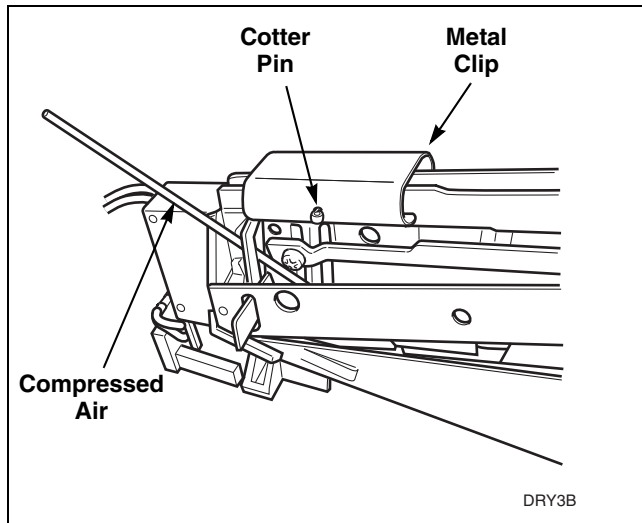

Figure 80
- If lint is preventing coins from rolling through coin drop, blow compressed air through coin entry and along the side of the coin drop. Refer to *Refer to Figure 80*.
- Remove cotter pin from top of drop. Refer to **Refer to Figure 80**. Save pin for reinstallation when cleaning is complete.
- Move metal clip closer to sensor so that it comes off frame. Refer to **Refer to Figure 80**.